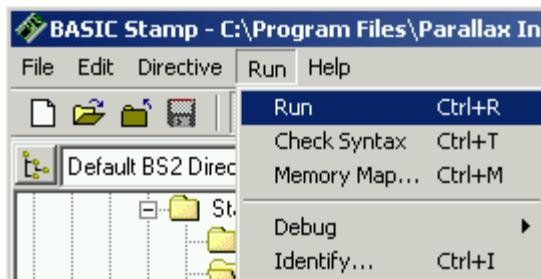
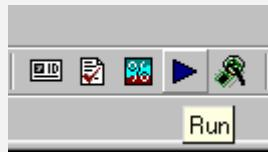

Figure 1-39
Figure 1-41
- ✓ Click *Run*, and select *Run* from the menu that appears (by clicking it) as shown in Figure 1-39.
The **BASIC Stamp Editor** has **shortcuts** for most common tasks. For example, to run a program, you can press the 'Ctrl' and 'R' keys at the same time. You can also click the *Run* button. It's the blue triangle shown in Figure 1-41 that looks like a CD player's Play button. The flyover help (the Run hint) will appear if you point at the *Run* button with your mouse. You can get similar hints to find out what the other buttons do by pointing at them too.
- ✓ Run your modified program. You will have to either select *Run* from the *Run* menu again, like in Figure 1-39 or click the *Run* button, like in Figure 1-41.